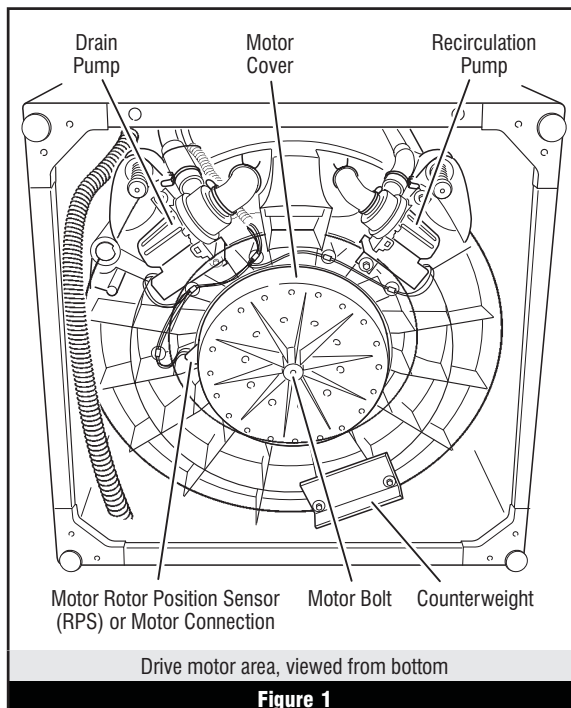
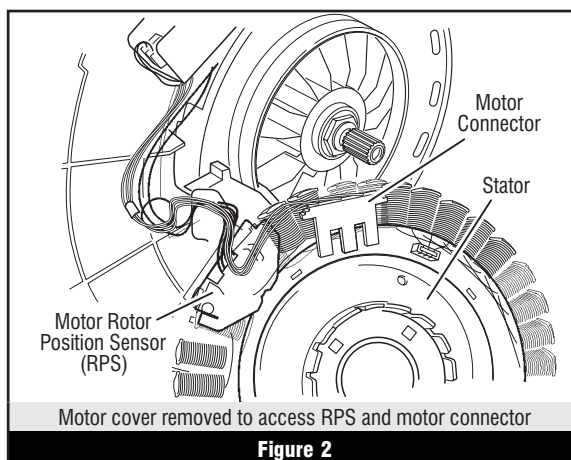

Figure 1
Figure 2
7. Tilt machine forward to access the bottom of the machine and the drive motor area. See figure 1, page 5. Remove the motor bolt, then the motor cover to access the motor connections. See figure 2, page 5.
9. With an ohmmeter, check for continuity between all pins on the P10 machine motor control connector and the motor rotor position sensor (RPS) connector. See figure 2 at right and figure 4, page 16.
5. Tilt machine forward to access the bottom of the machine and the pumps. See figure 1, page 5.